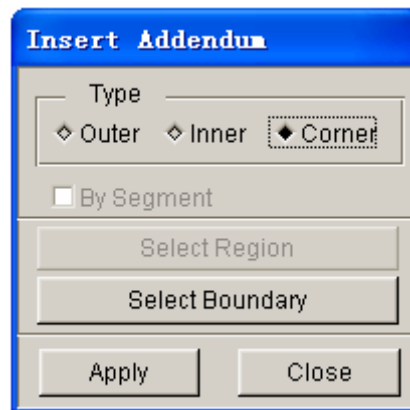

Figure 6.3.17 Corner Addendum
1. When the CORNER option is selected, the SELECT BOUNDARY button as illustrated in Figure 6.3.17 is enabled.